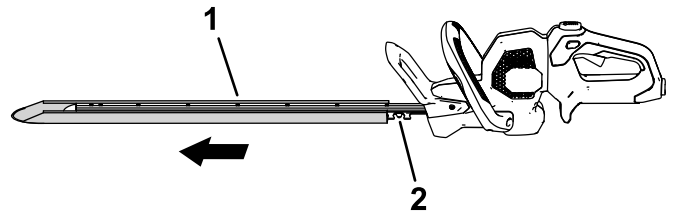

Figure 3
1. Remove the protective cover from the blades (Figure 3).